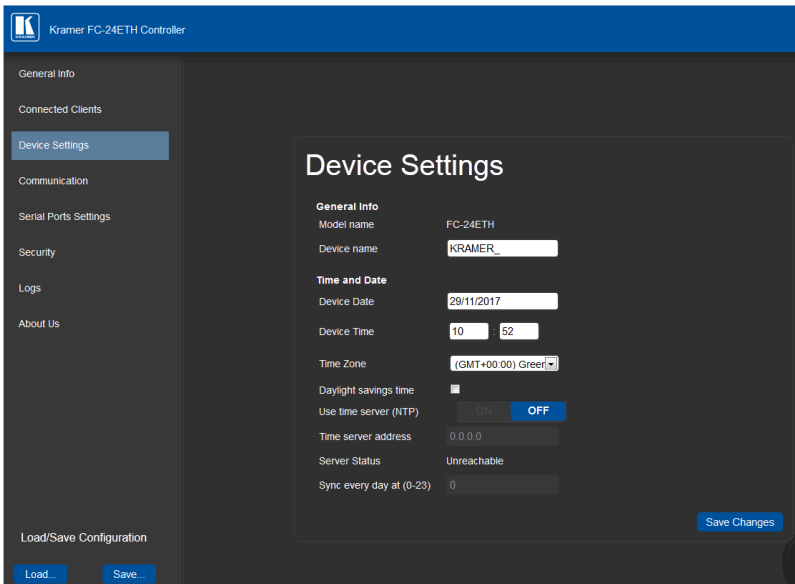

Figure 16: Device Settings Page
1. Browse to the Device Settings page by clicking Device Settings. The Device Settings page is displayed as shown in Figure 16.